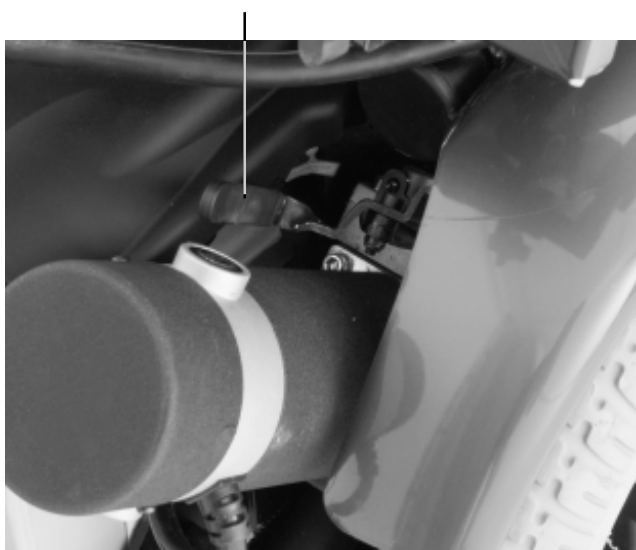

Figure 7. Freewheel Mode (Drive Disengaged)
For your convenience, your power chair is equipped with two manual freewheel levers mounted on the motors. See figures 7 and 8. These levers allow you to disengage the drive motors and maneuver the chair manually. You can manually push the power chair by the seatback or push the power base itself if the seat is removed.
1. Pull the manual freewheel lever inward for freewheel mode (drive disengaged). See figure 7.